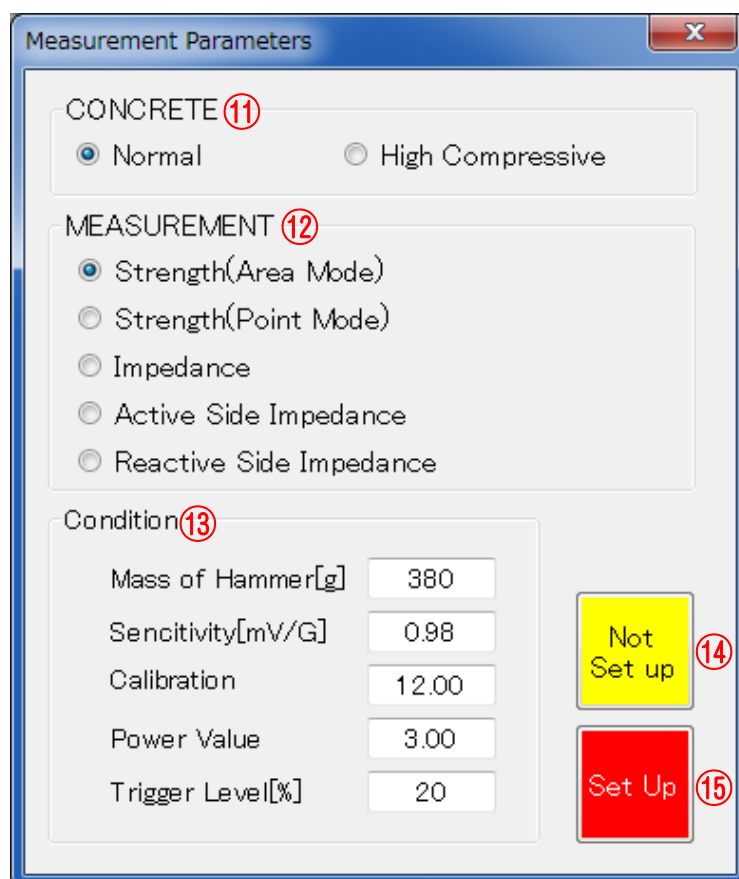

Fig.4-7 Dialog Window
- Click [Parameters Set] ⑥ button in the initial screen of CTS-02V4-PC.
- The dialog window as shown below will be displayed to input the measurement parameters (See Fig.4-7).